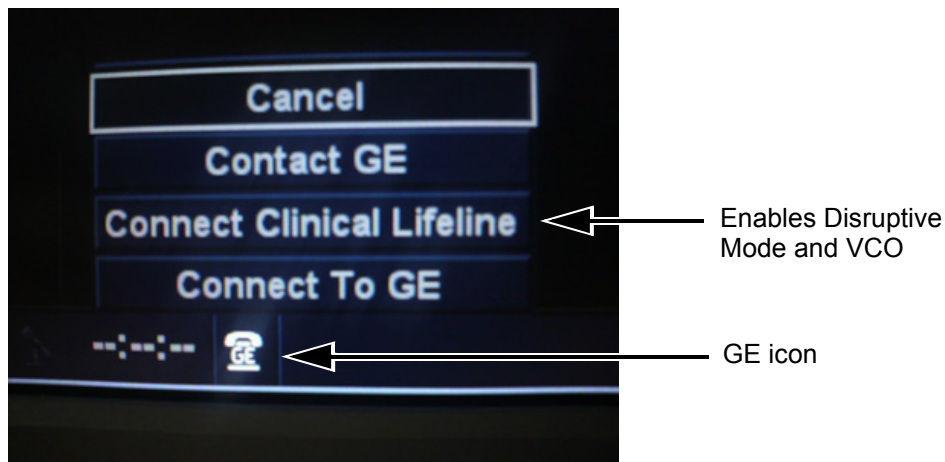
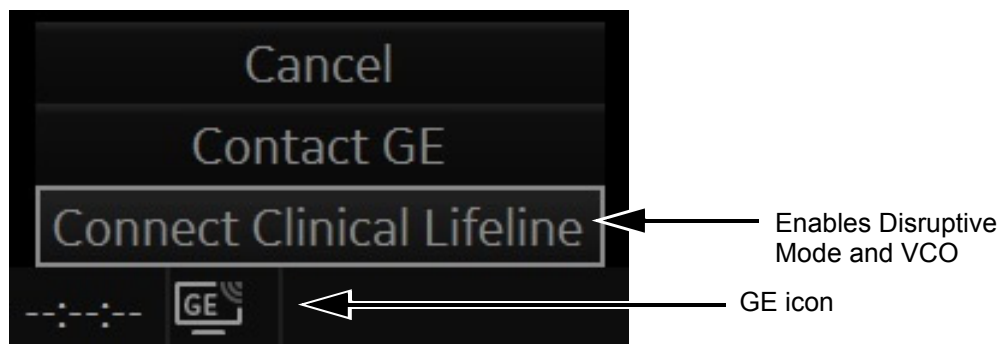

Figure 7-12 Connect Clinical Lifeline (R1, R2, R2.5 only)
Figure 7-13 Connect Clinical Lifeline (R3 only)
- 3) Select **Connect Clinical Lifeline** (see: Figure 7-12 on page 7-16 (R1, R2, R2.5 only) or Figure 7-13 on page 7-16 (R3 only) below).